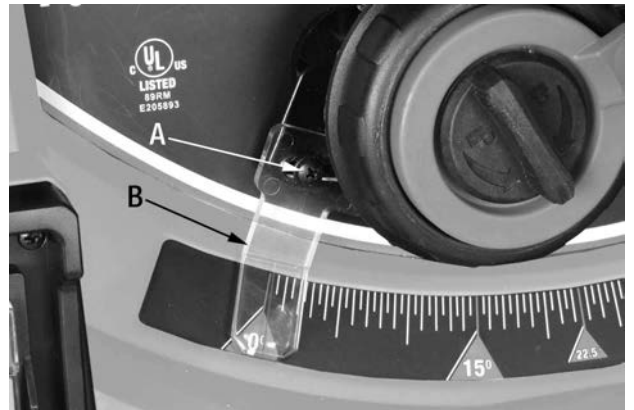

FIGURE 23
If the blade is at a 90° angle and the bevel indicator (B) Fig.23 does not indicate 0° on the scale, an adjustment can be made:
3. Loosen the screw (A) Fig.23 which secures the bevel indicator (B). Readjust the position of the bevel indicator so it aligns with the 0° on the bevel scale. Retighten screw.